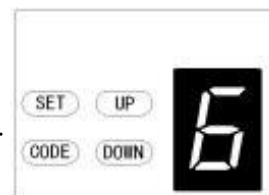

Fig.19
- 18.3 Momentarily press the "Up" button 5 until "6" is displayed on the LED screen. (Fig.19)